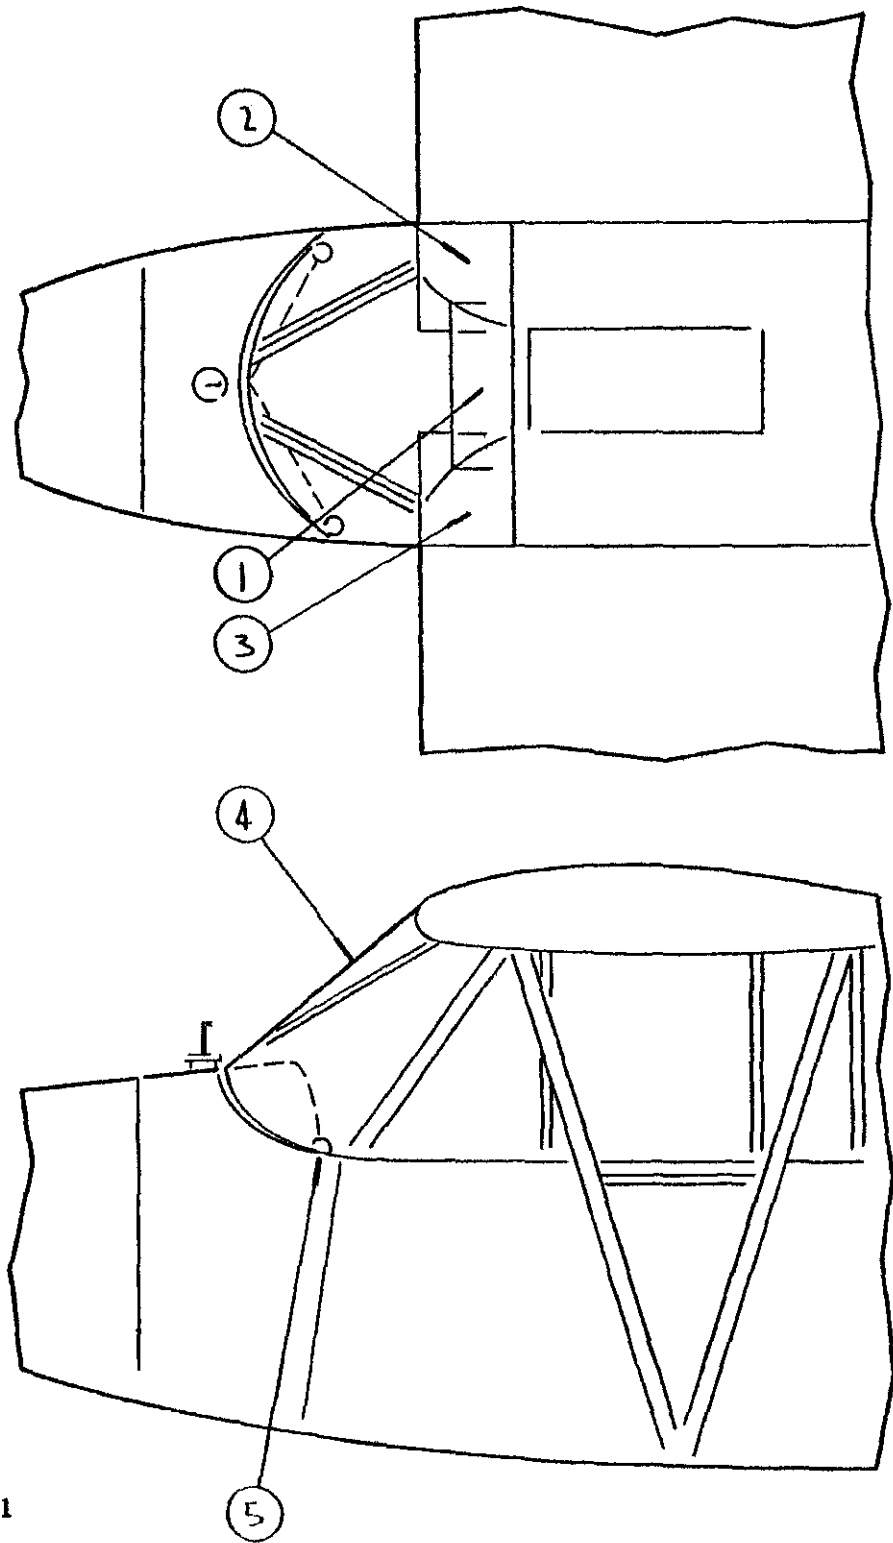

FIGURE 1
1. Remove old windshield (4, Figure 1), eyebrow fairings (2, 3, Figure 1), and top center fairing (1, Figure 1).
2. Remove old windshield attachment tabs (5, Figure 1) from fuselage cowl.
4. Replace old top center fairing (1, Figure 1) and attach to windshield with three (3) No. 6-32 x 1/2" machine screws and elastic stop nuts. (1/4" holes in windshield). Use washers, part number 54161-00 and 85012-28, as shown in Figure 2.